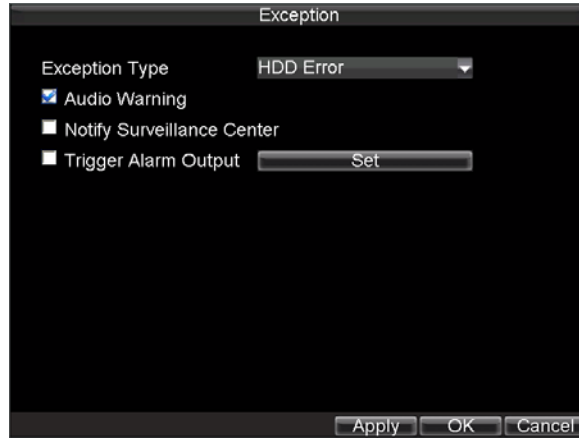

Figure 8. Exception Menu
1. Click Menu > Settings > Exception to enter Exception menu, shown in Figure 8.